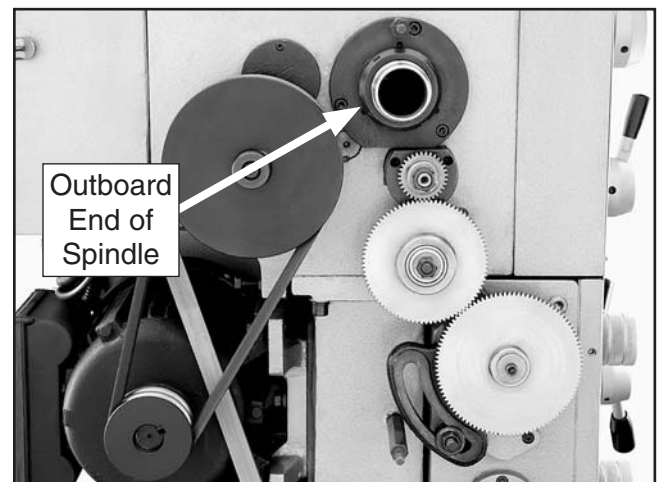

Figure 89. Location of outboard end of spindle.
3. Remove the chuck, shift the spindle to neutral, then remove the cover from the end of the headstock to expose the outboard end of the spindle (**Figure 89**).